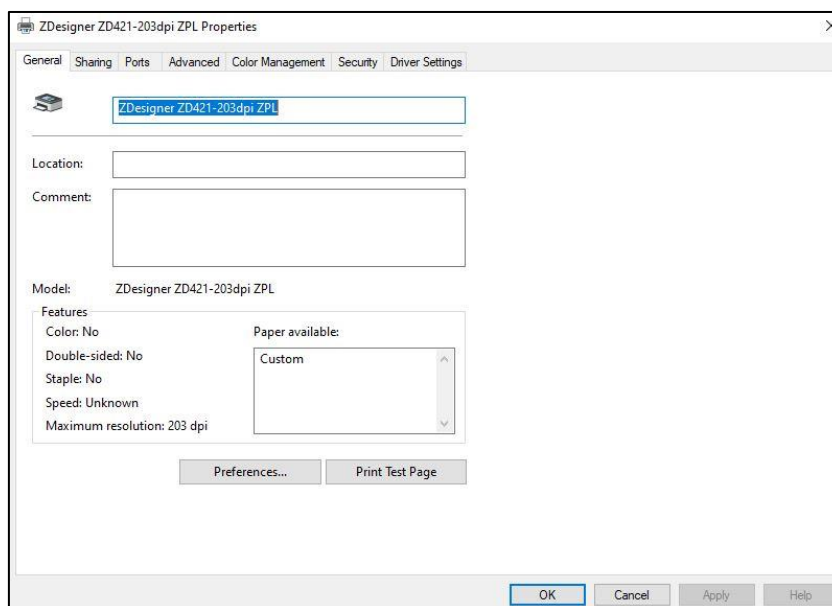

Figure 3: Printer properties
- Figure 3: Printer properties2
Once you click **Printer properties**, a new window will be displayed, where you select the **Advanced** tab (see Figure 3).